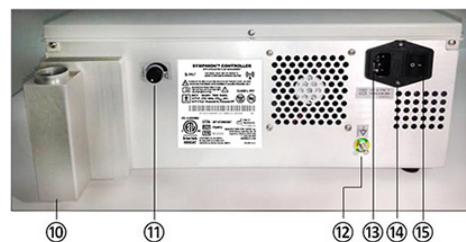
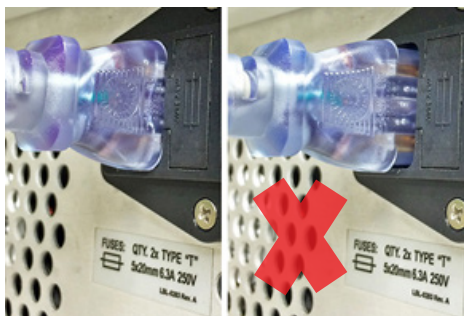

Figure 1B: Controller Back
Figure 10a
2. Remove plastic cap from saline pole bracket (Fig 7) on the back of the Controller (Fig. 1B Item 10).
2. Connect the Controller Power Cord (Fig.10a) to the power entry module (Fig. 1B, Item 13).
4. Turn on the Controller using the power switch (Fig. 1B, Item 15) on the back of the Controller.